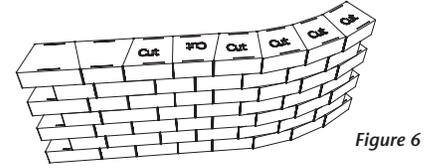

Figure 6
- The chart only calculates the full radius wallstones. You might need to cut transition wallstones when using straight and radius walls together. Use the method of converting the rear "gap" between the wallstones and using that dimension as the cut mark on the front face of the wallstone beside it when going into the transition to straight wall from curved wall. Figure 6 shows a transition with special "gap" cuts marked.